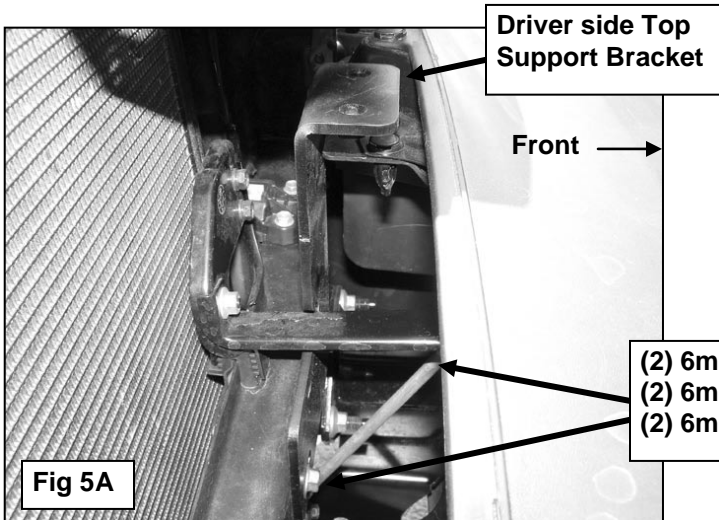

Fig 5A
- Select the driver side Top Support Bracket, (**Figure 5B**). Line up the holes in the bottom of the Support Bracket with the threaded holes in the crossmember. Bolt the Support Bracket to the crossmember with (2) 6mm x 25mm Hex Bolts, (2) 6mm Lock Washers and (2) 6mm Flat Washers, (**Figures 5A – 5C**). **NOTE:** Replace factory 6mm screws, (if equipped), from crossmember with 6mm hardware. Fully tighten the 6mm hardware only at this time.